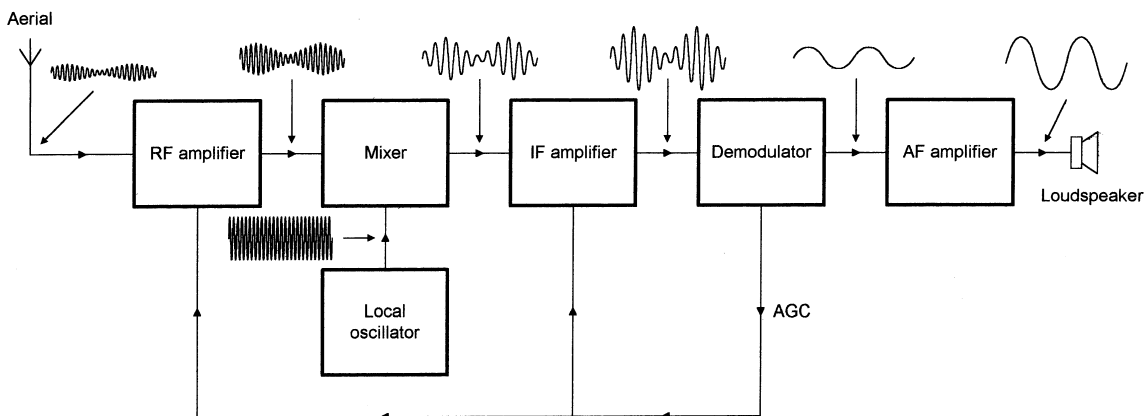

Figure 13.11 A superhet receiver
Superhet receivers provide both improved **sensitivity** (the ability to receive weak signals) and improved **selectivity** (the ability to discriminate signals on adjacent channels) when compared with TRF receivers. Superhet receivers are based on the **supersonic-heterodyne** principle where the wanted input signal is converted to a fixed **intermediate frequency (IF)** at which the majority of the gain and selectivity is applied. The intermediate frequency chosen is generally 455 kHz or 470 kHz for AM receivers and 10.7 MHz for communications and FM receivers. The simplified block schematic of a simple superhet receiver is shown in Fig. 13.11.